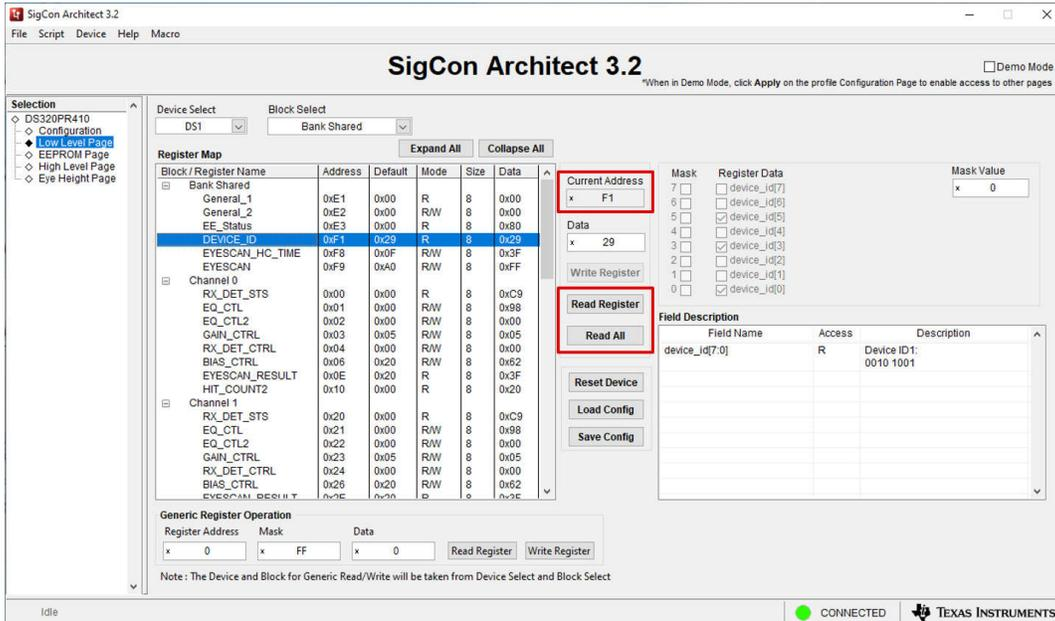

Figure 3-3. Low Level Page: Read Register Buttons
- Click the *Real All* button to read the configuration registers of the entire device into the GUI. Alternately, click a specific register, and click the *Read Register* device to update the selected target register in the GUI. The *Current Address* field automatically updates with the selected (highlighted) register. This field and associated buttons are shown in Figure 3-3.